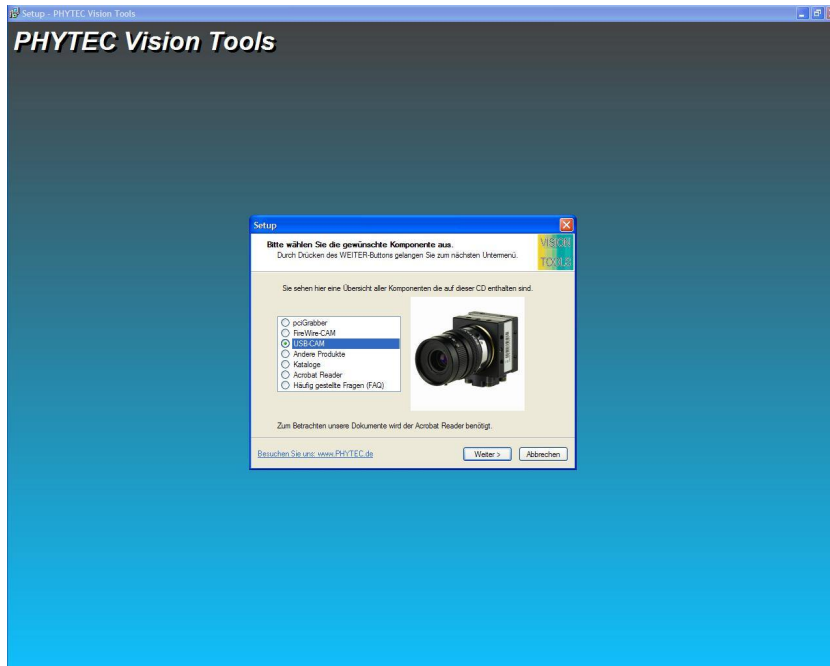

Figure 16: Title Menu of the, Vision Tools' CD
- The CD should start automatically, bringing up the title menu shown in *Figure 16*: Title menu of the 'Vision Tools' CD.